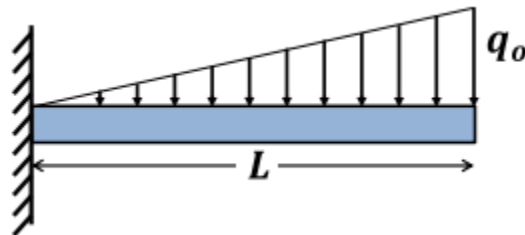

Fig. PS4.5
4. Suppose a cantilever beam of length, L is subjected to a linearly distributed load of intensity as shown in Fig. PS4.5.